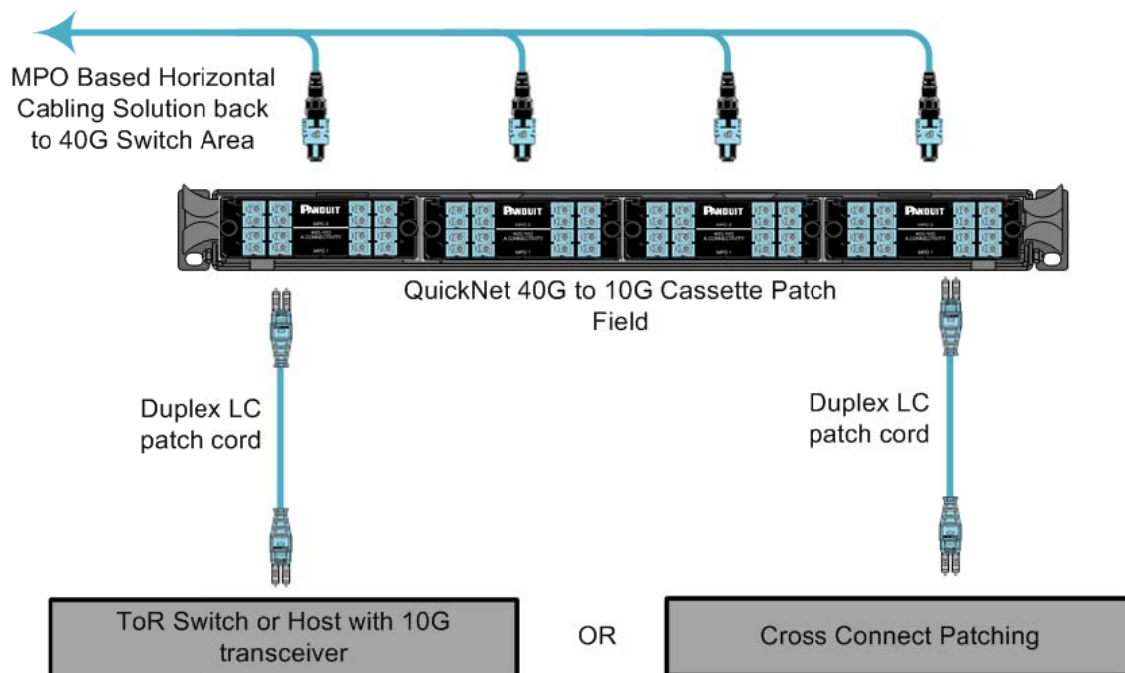

Figure 6. Typical 40G to 10G Cassette utilized in the Equipment Area or in the Cross Connect Field
The horizontal cabling supports the MPO based 40G transmission up to the migration cassette where the individual duplex LC patch cords are run to the respective 10G targets. Both solutions; the QuickNet form factor cassette, shown in Figure 6 and the QuickNet SFQ form factor cassette are capable of being used to support up to thirty two (32) 10G channels in 1RU of Rackspace. Utilization of the cassette at the equipment end or cross connect field of a typical cabling architecture systems is shown in **Figure 6**.